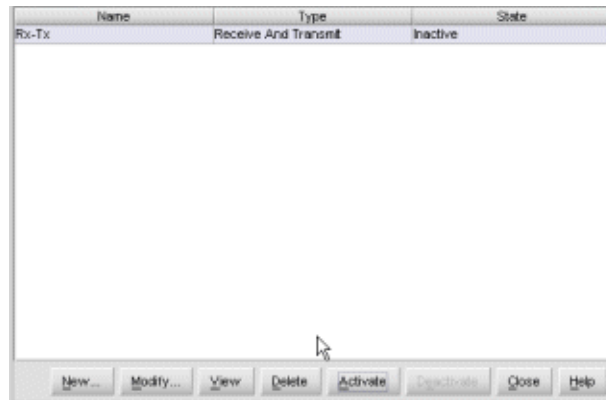

Figure 58: Configure Threshold Alerts dialog box
12. Click **Finish**. The Configure Threshold Alerts dialog box displays, as shown in Figure 58.